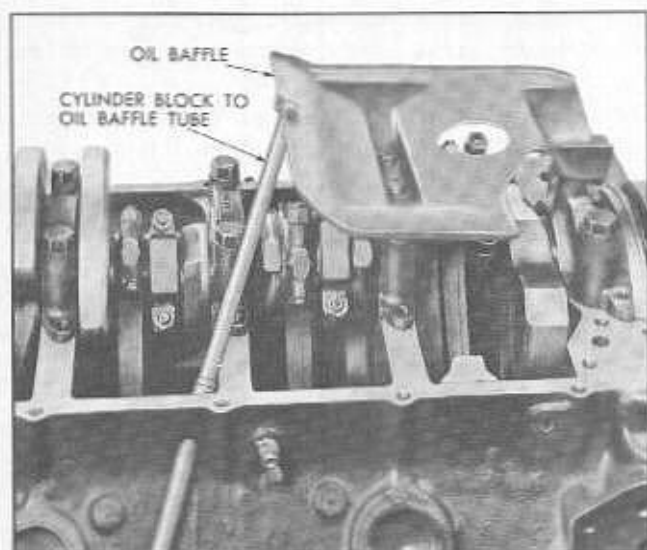

Fig. 6-76 Proper Assembly of Oil Baffle and Tube
16. Position cylinder-block-to-oil-baffle tube and engine oil baffle on engine, install attaching screws with lockwashers and tighten securely (Fig. 6-76).